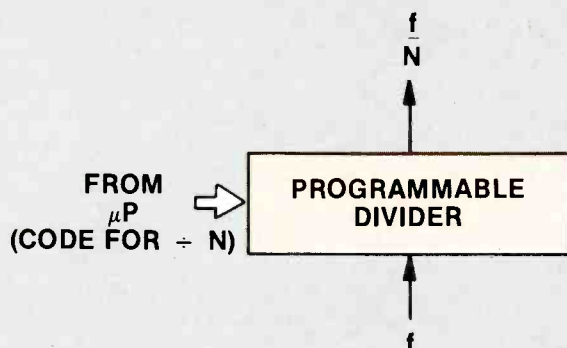

Figure 2.
Figure 2 shows a *programmable divider*. Its purpose is to divide any frequency (f) by a whole number (N). The divisor is selected by a binary code that is delivered to the programmable divider from the microprocessor. In this system, there are 99 different channels, so there must be 99 different codes for selecting any of the available FM channels.